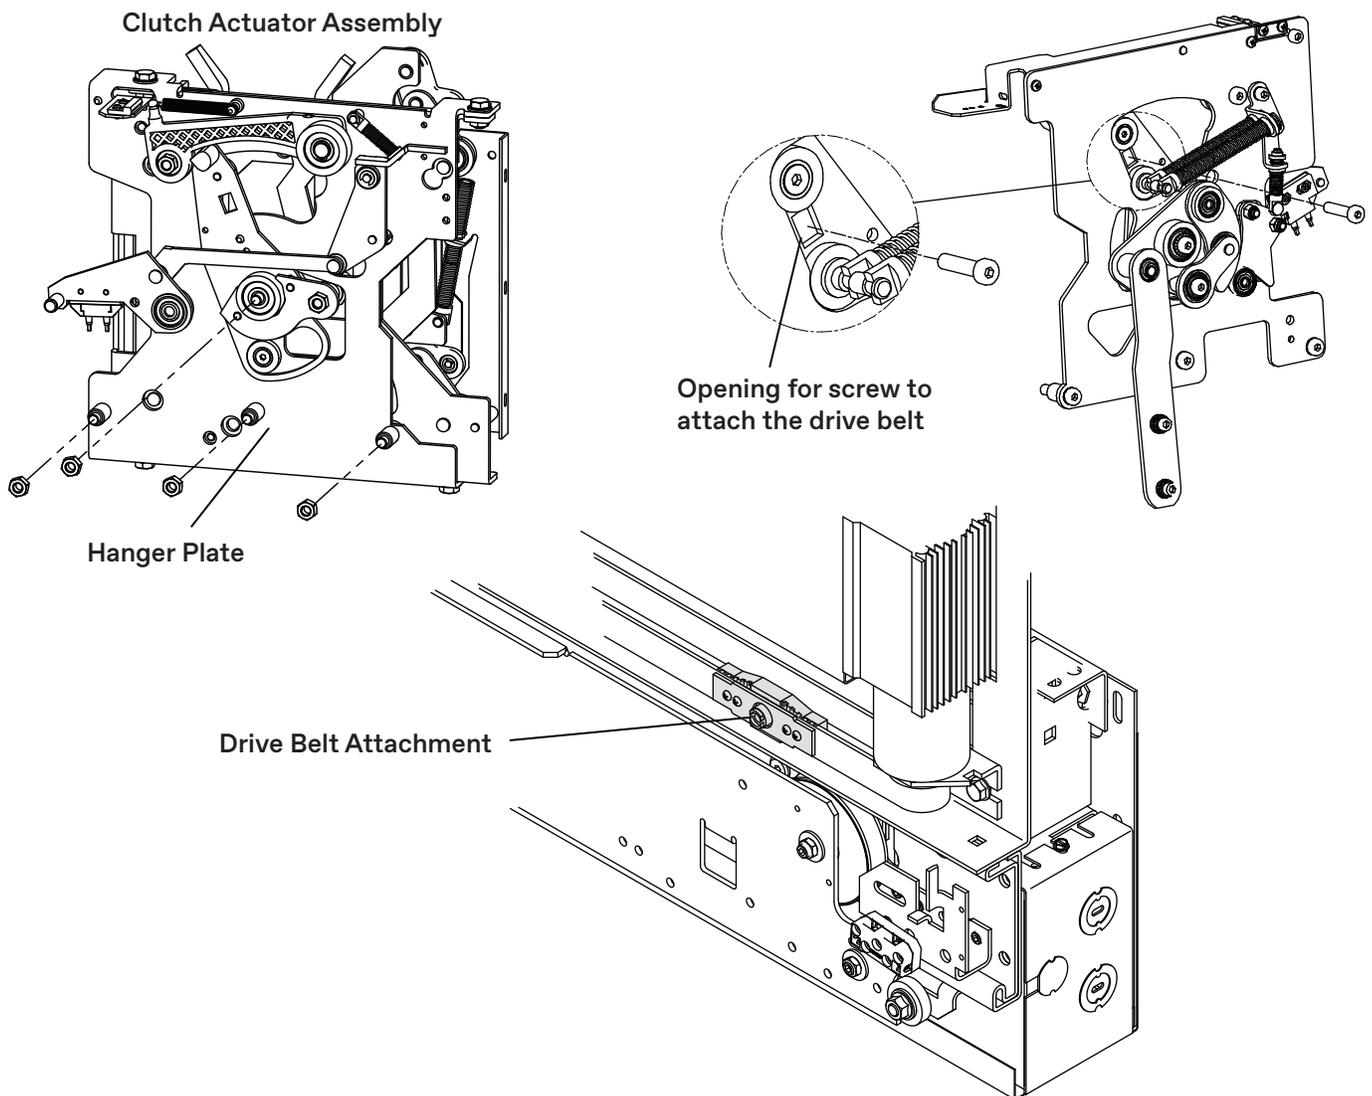

Figure 21 - Clutch Actuator Assembly Installation
2. Remove and discard 4 shipping nuts from the clutch actuator/restrictor assembly. See Figure 21.